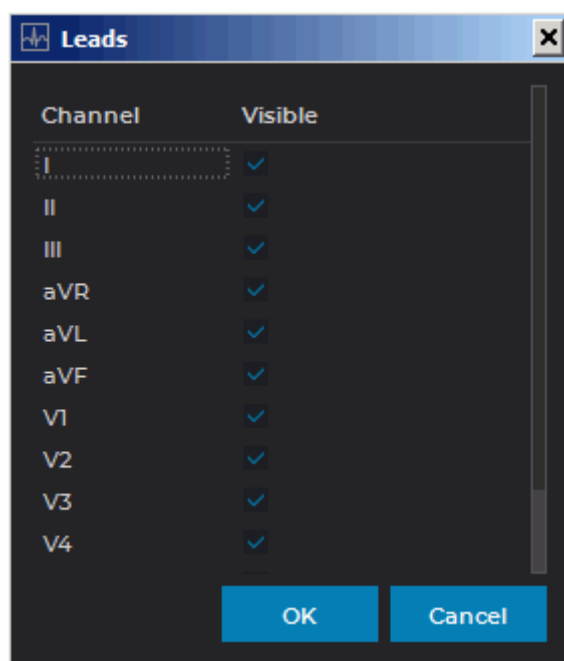

Figure 10.4: Lead selection window
1. Click the  button on the toolbar. The window shown in Fig. 10.4 will be displayed.